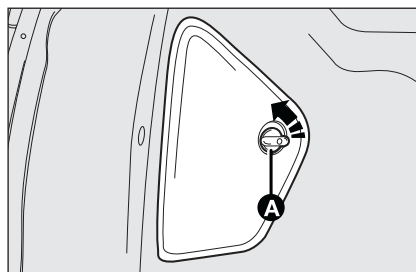
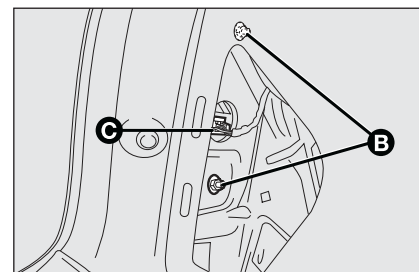

fig. 27
fig. 28
- turn the fastener **A**-fig. 27 counter-clockwise (for the left lid) or clockwise (for the right lid) and remove the cover;
- disconnect the electrical connector **C**-fig. 28;
- refit the bulb holder and make sure the two tabs are fastened and then connect the electrical connector **C**-fig. 28; drive in the two fastening nuts **B**; refit the cover checking that the tabs are fitted in their seat and turning the fastener **A**-fig. 27 counter-clockwise (for the left lid) or clockwise (for the right lid) to hook it.